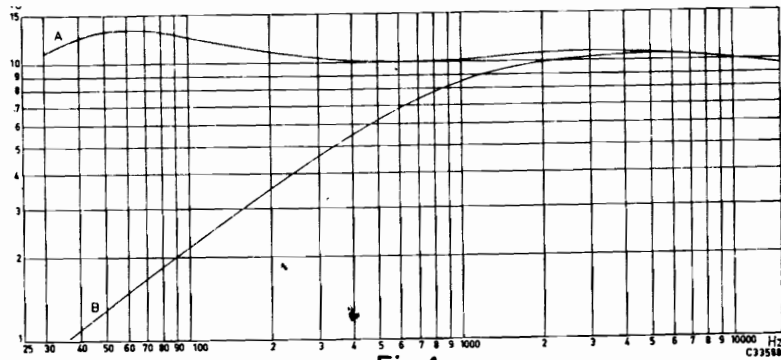

Fig.4
The same can be done with R2 and R4. SK1 and SK2 switch from music position (A) fig. 4 to speech (B fig. 4). The low notes are cut to make speech more intelligible. After amplification in B3, the signal is applied to the tone controls R8 and R7, and via socket (5) to the output terminals. The final amplifier supplies the filament and HT voltages. The final amplifier also supplies the voltage to operate the level indicator, and the limiter. For the limiter, a voltage is applied across LA2, R9, R56 and SK3, LA2 will light if the current is big enough. This light will fall on photo resistor R24. The resistance of R24 will drop, and part of the input voltage to B3 is shorted to earth. Another voltage is fed back from the anodes of the final amplifier via neon tube B5. B5 lights, if the output voltage is high enough, light from B5 will fall on R24.